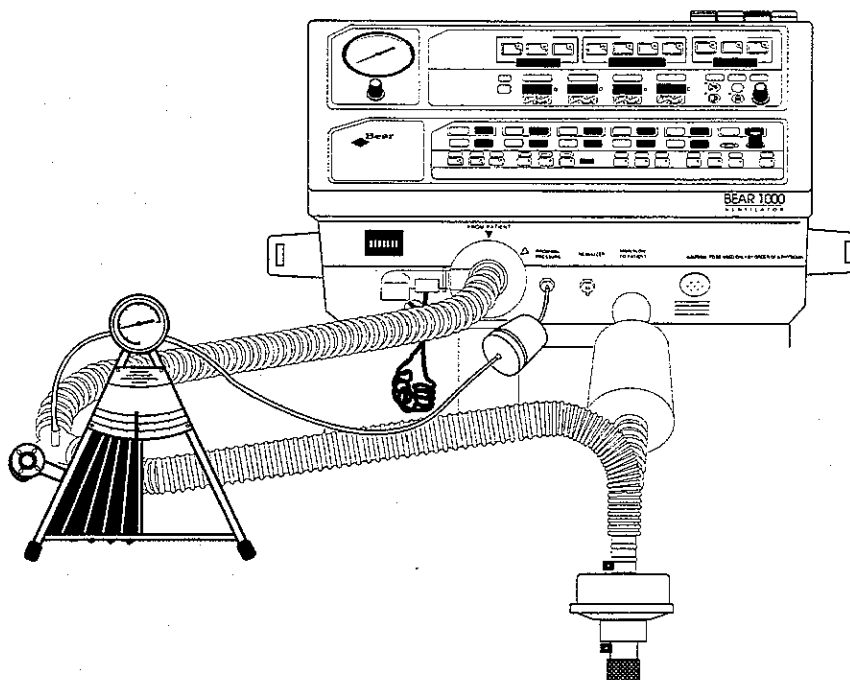

Figure 3-3
1. Connect the ventilator as shown in Figure 3-3.